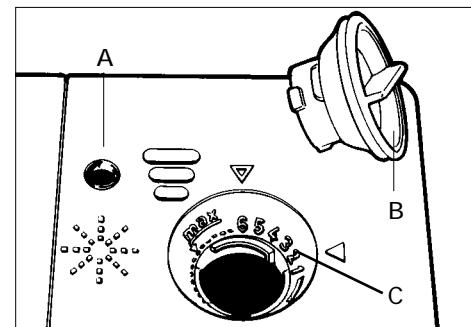

fig. 5
■ Open the rinsing agent reservoir (see fig. 5) on the inside of the door, next to the detergent reservoir.